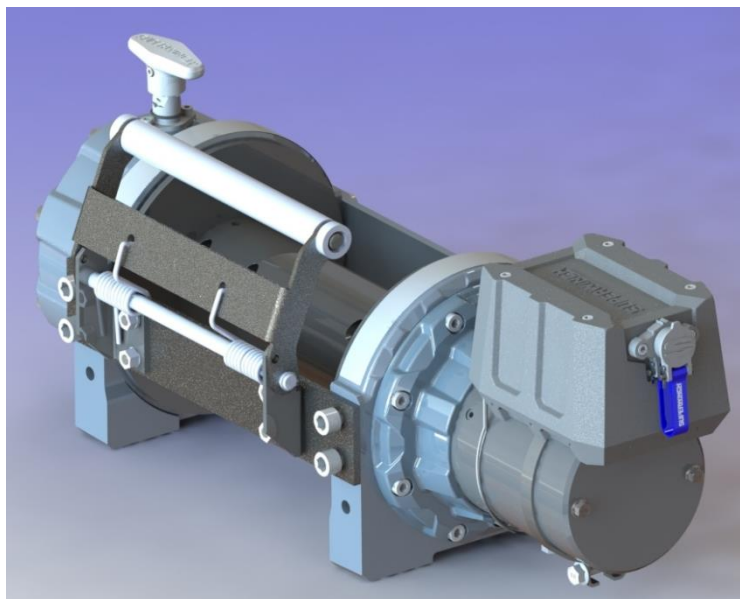

Figure 6 - Tensioner Mounted
5. Align tensioner as shown in figure 6 and reinstall all four tie bar bolts to 80Nm (59lb*ft)